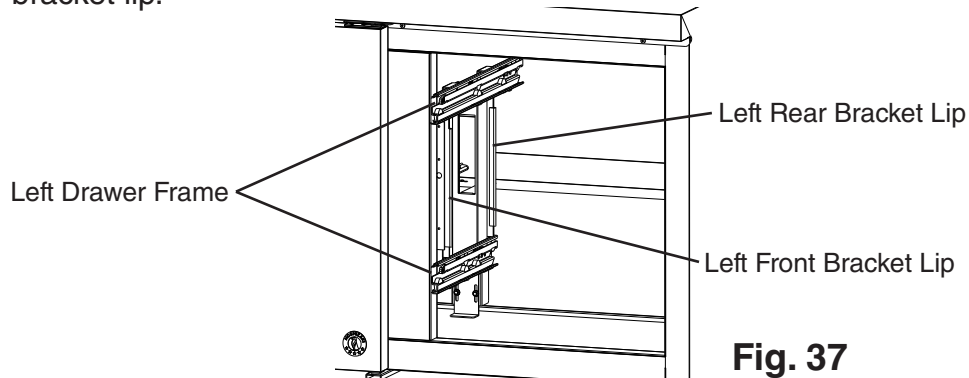

Fig. 37
- 22) Place the left drawer frame in the appliance and align under the left rear bracket and tighten, then align under the left front bracket and tighten. See Fig. 37.